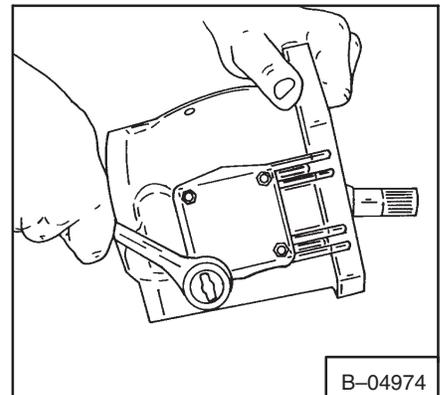

Fig. 3-106 Removing Pintle Cover Bolts
14. Remove the four bolts that hold the pintle covers on each side of the pump housing (Fig. 3-106 & 3-107).